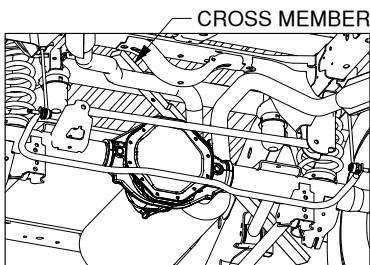
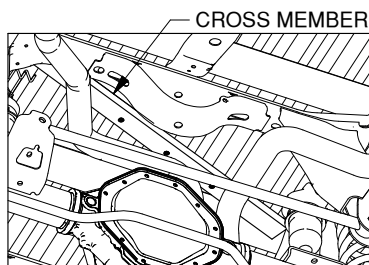

Figure B1: View under bed looking from rear towards the axle.
Figure B2: View under bed looking at area above axle.
- 3. Place the rear cross member.** The rear cross member is the 2" x 1" bar with the threaded holes. The cross member will be installed from the passenger side, just in front of the rear tire. Insert the cross member between the frame and the top suspension control arm with the notch machined into the cross member going first and facing the rear. Slide the leading end of the cross member above the exhaust and over the frame of the truck on the driver side while moving that end toward the rear, see Figure B1. As the leading end gets to the driver side, raise the opposite end of the cross member up until both ends of the cross member can be positioned over the top of the frame with the cross member laying flat and the notch still facing the rear, see Figure B2.